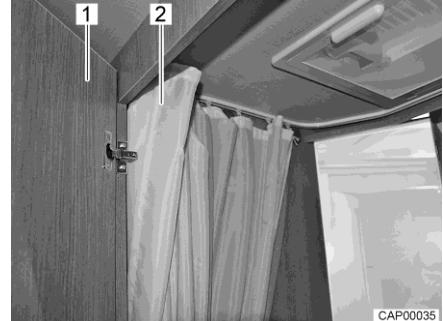

Fig. 76 Toilet compartment with shower
- For showering, close the door (Fig. 76,1) and completely close the shower curtain (Fig. 76,2) so that all walls are protected.